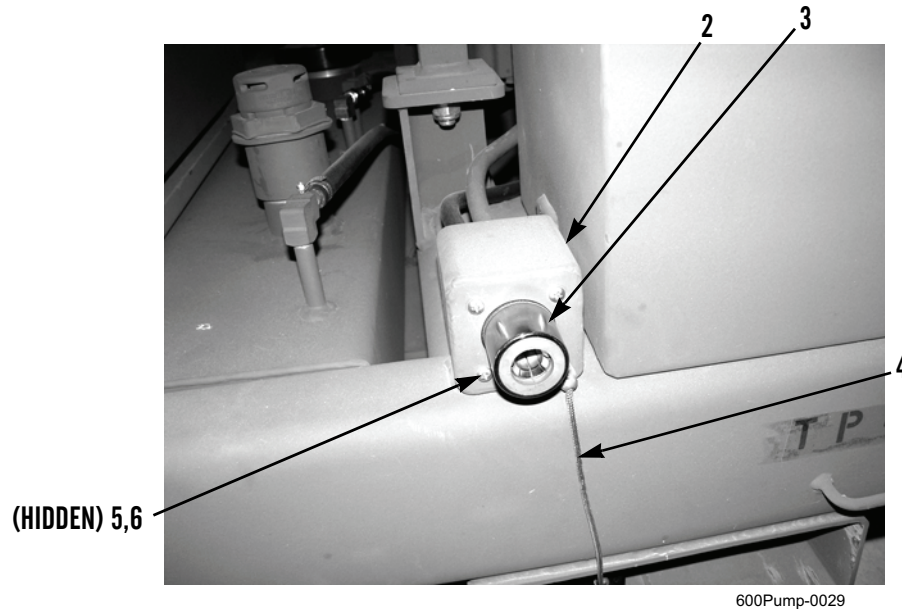

Figure 2. NATO Electrical Receptacle.
2. Remove four locknuts (Figure 2, Item 6), screws (Figure 2, Item 5), cover lanyard (Figure 2, Item 4), and NATO electrical receptacle (Figure 2, Item 3) from bracket (Figure 2, Item 2). Discard locknuts.
3. Install NATO electrical receptacle (Figure 2, Item 3) and cover lanyard (Figure 2, Item 4) on bracket (Figure 2, Item 2) with four screws (Figure 2, Item 5) and new locknuts (Figure 3, Item 6).